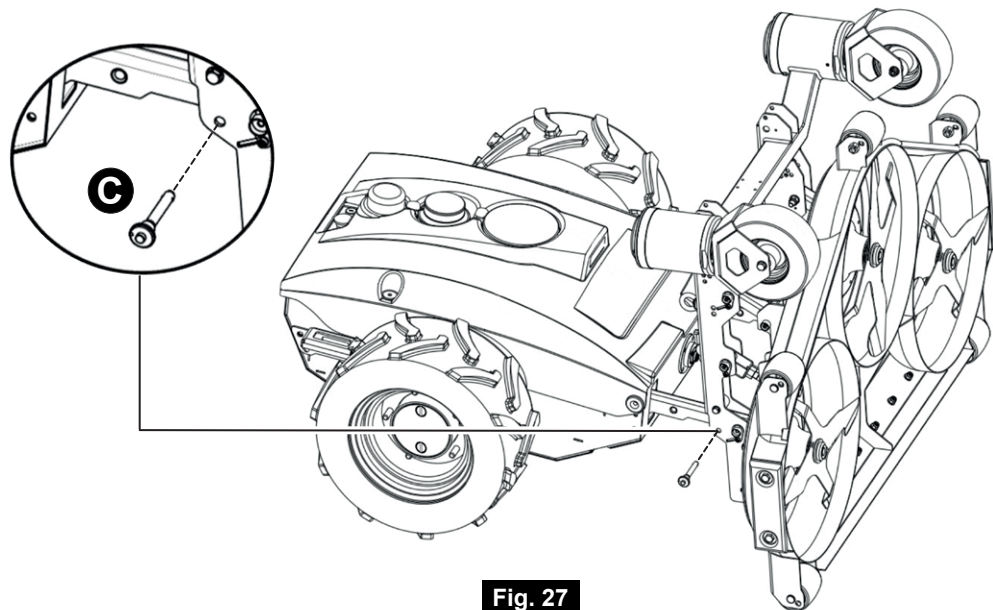

Fig. 27
WARNING! Always remember to secure the Service Mode Position by inserting the locking pin (C) as shown in fig. 27.